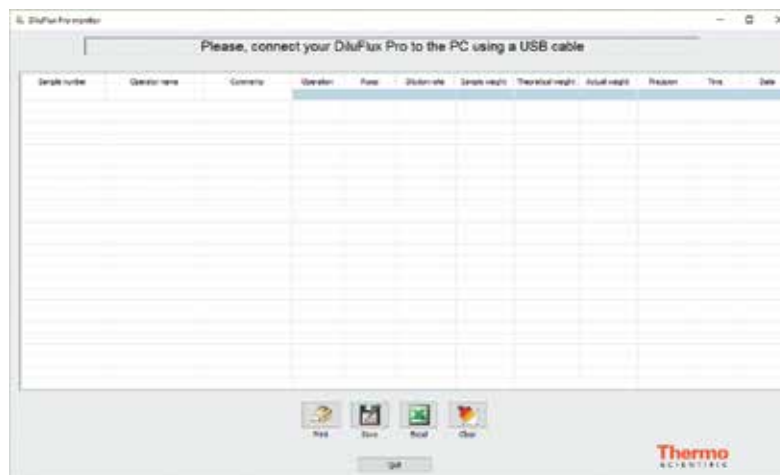

Figure 32
- If a screen such as Figure 32 is displayed, check that: